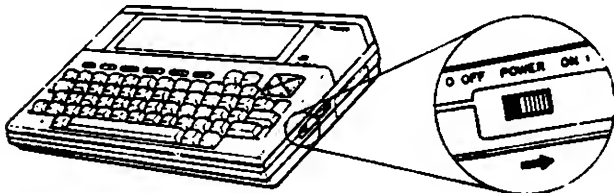

Figure 930-1 Power Switch Location
1. Turn the power switch to the OFF position, refer to Figure 930-1.
**NOTES:** 1. When connecting the AC adaptor, make sure that the power switch of the PC-8300 is off. (See Figure 930-1).